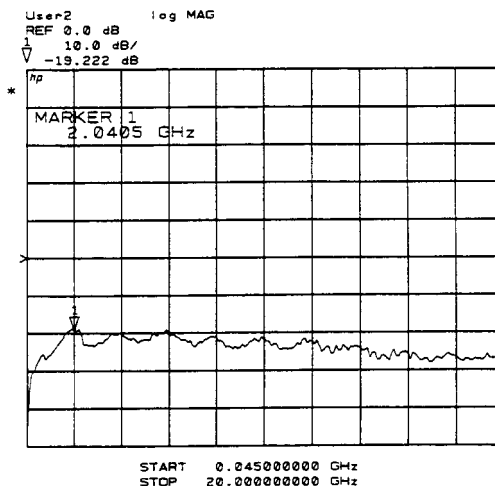
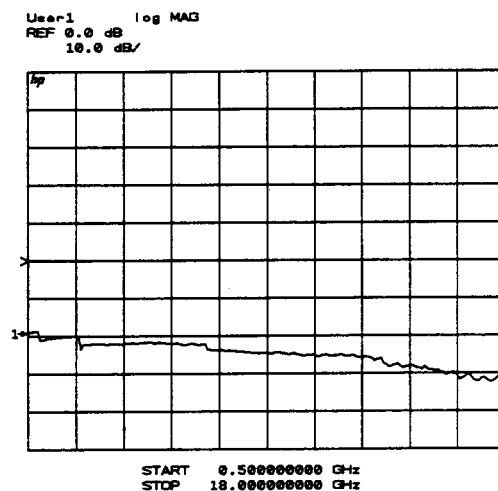

Figure 3-3 Typical Operator's Check CRT Power Level Trace
Figure 3-4 Typical Operator's Check CRT Power Level Trace
- b. HP 8350B systems: press **[SWEEPTIME]**, **[2]**, **[0]**, **[0]**, **[k/m]**, to set the sweep time to 200 ms. In narrow band systems, the level of the frequency band generated should match the levels shown in Figure 3-3 for a given frequency.
3. Press [User 1 a1], [User 2 b2], [User 3 a2], and [User 4 b1] to check the channels indicated. The b1 and b2 traces should resemble Figure 3-3. The a1 and a2 traces should resemble Figure 3-4.
5. Press PARAMETER, [MENU], [User 4 b1], [REDEFINE PARAMETER], [DRIVE], [PORT 2], [PHASELOCK], [a2], [REDEFINE DONE] to observe the b1 thru power level trace. The trace should resemble Figure 3-4.
6. Leave the thru connection of step 4 connected. Press **PARAMETER**, **[MENU]**, **[USER 2 b2]**, **[REDEFINE PARAMETER]**, **[DRIVE]**, **[PORT 1]**, **[PHASELOCK]**, **[a1]**, **[REDEFINE DONE]** to observe the b2 power level trace. The trace should resemble Figure 3-4.
3. Press [USER 4 b1] to observe the b1 power level trace. The trace should resemble Figure 3-3.
5. Press PARAMETER, [MENU], [USER 2 b2], [REDEFINE PARAMETER], [DRIVE], [PORT 1], [PHASELOCK], [a1], [REDEFINE DONE] to observe the b2 power level trace. The trace should resemble Figure 3-4.